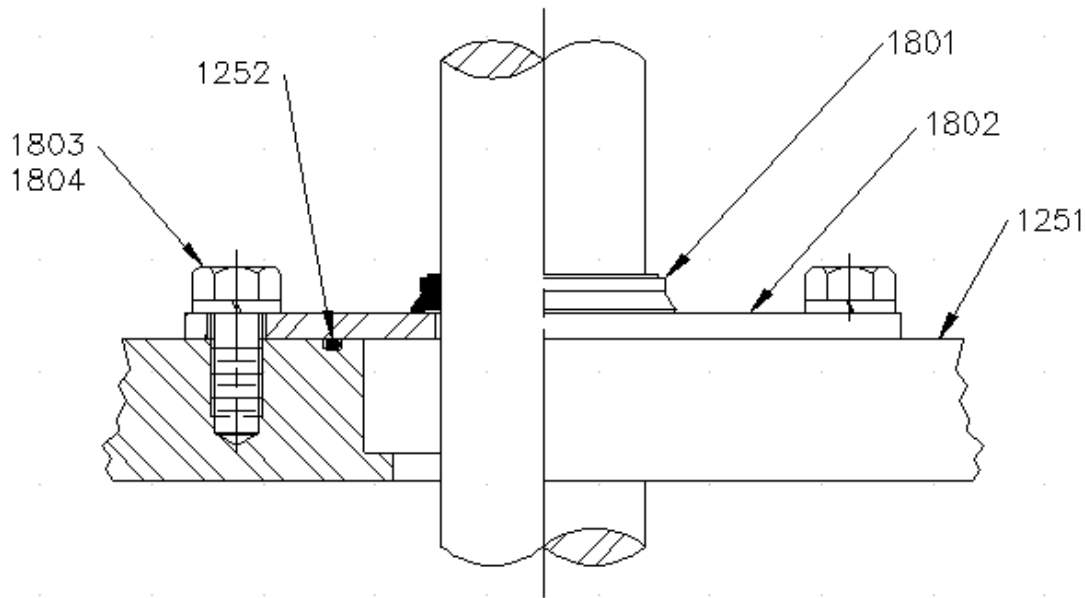

Figure 6. L Style – Lip Seal
6. Center the seal plate [1802] on the shaft. Torque bolts [1803] to the value shown in the APPENDIX, Page 96. Refer to Figure 6, page 23. Slide V-ring [1801] down the shaft to contact seal plate. If the process conditions allow, it is a good idea to lubricate the v-ring prior to start up with any compatible grease.